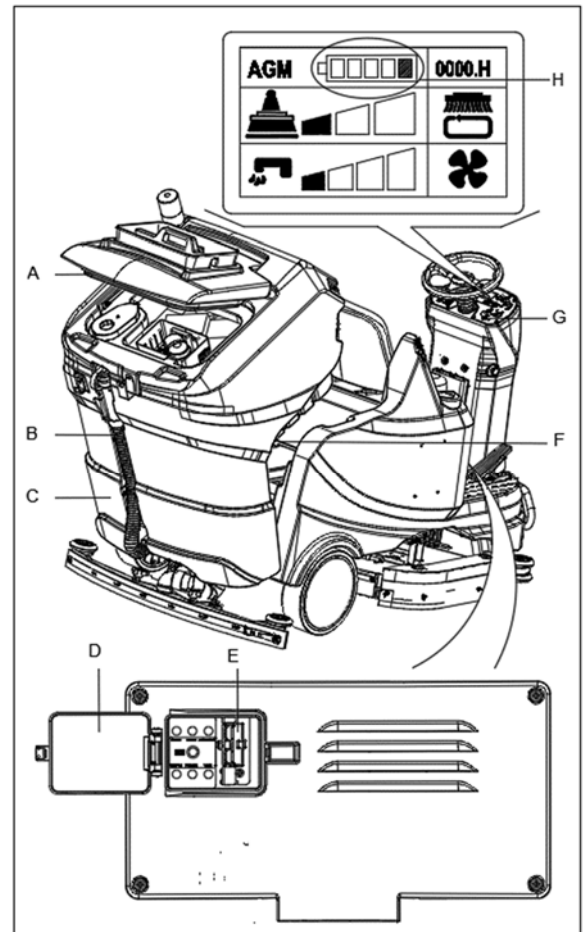

Figure 16
1. Open the cover (A, Figure 16) and check that the recovery water tank (C, Figure 16) is empty, otherwise empty it with the drain hose (B, Figure 16).
3. Turn the Ignition key (G, Figure 16) to "0".
5. Open the protective cover (D, Figure 16). Connect the battery charger connector to the connector on the machine (E, Figure 16). When the battery charger is connected, all machine functions are automatically cut off.
9. Insert the Ignition key (G, Figure 16) and turn it to "I". Check the status of batteries on multifunction display screen (H, Figure 16).